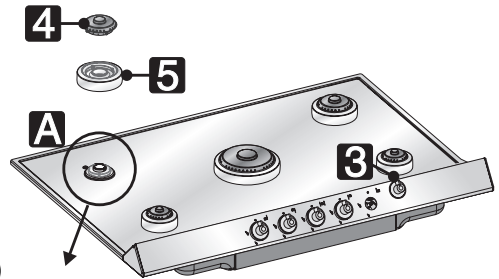

Fig. 2)
- remove all the knobs (3, Fig. 2) by pulling them outward;